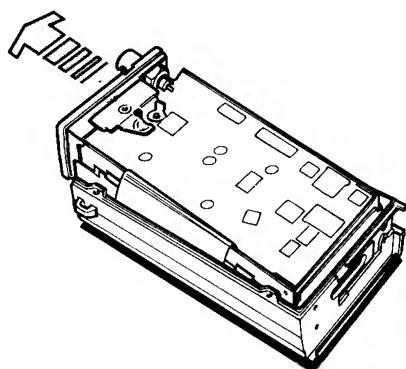

Fig. 5-1-3
4. Slide the inner frame upward slightly as shown in Fig. 5-1-3, and lift the frame away from the FRONT CASE. Be sure not to damage the flexible cable while removing the FRONT CASE.